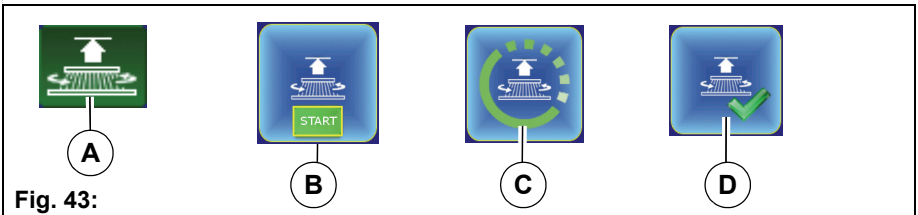

Fig. 43:
3. Select soft key *Couple brushes* **Fig. 43-A** using the turn-push knob and confirm. The action window **Fig. 43-B** opens. Use the turn-push knob to confirm the start.
The procedure starts and symbols **Fig. 43-C, D** appear on the multifunction display one after the other. Only now is the procedure complete.